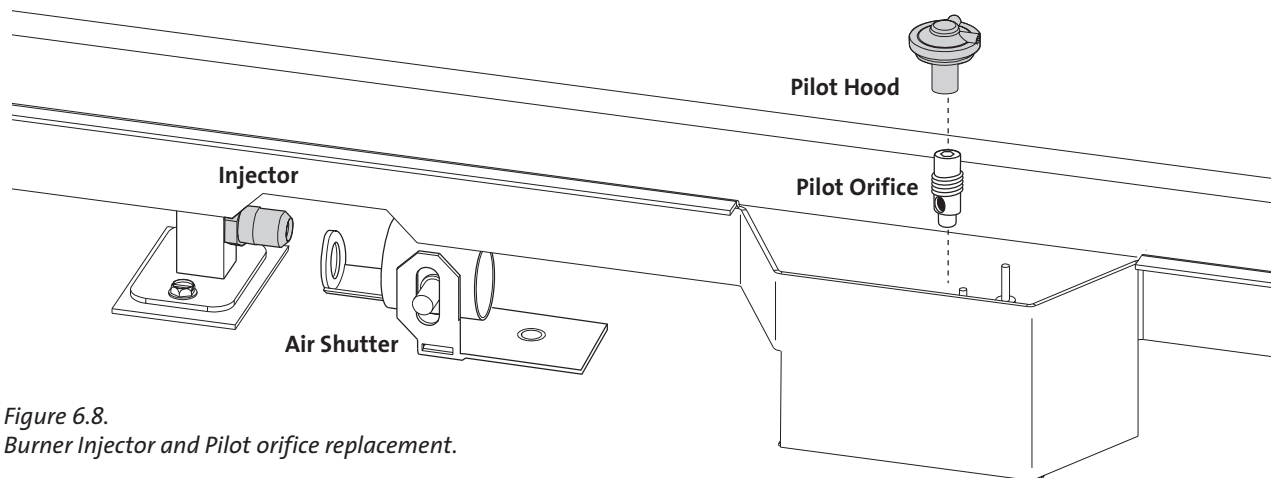

Figure 6.8.
8. **Change the Burner Injector.** See fig. 6.8. Using a 1/2" open end wrench or deep-well socket remove the burner orifice from its brass elbow housing and replace with the appropriate orifice supplied in the kit.
9. **Change the Pilot Orifice:** Fig. 6.8. Use a small blade screwdriver to release the retainer clip and pull the pilot hood off of its base. Use the 4mm hex key supplied to remove the pilot orifice from within the base and install the new orifice from the conversion kit.
2. Use a 1/2" or 13 mm deep socket to remove the original orifice and replace it with the one provided in the kit appropriate for gas type. See fig.6.8, page 20.